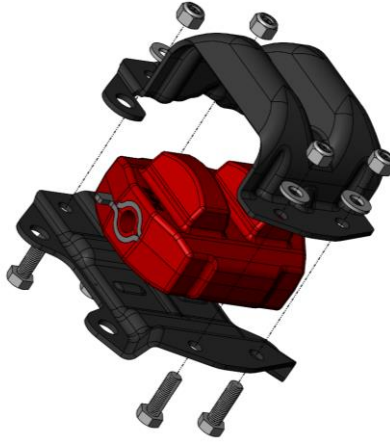

Figure 1
2. With the above conditions met, fasten the upper and lower clamshell halves together using the 5/16" hardware included with each clamshell housing. Install the fasteners in the orientation shown in **Figure 1** on the next page.